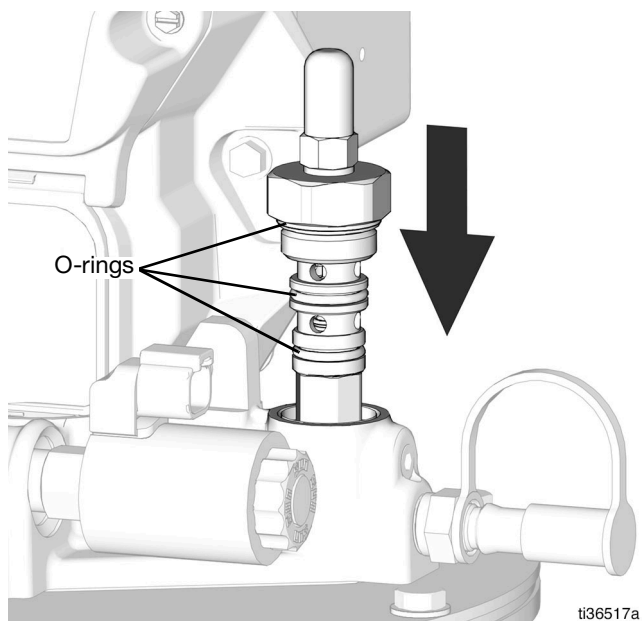

FIG. 6
5. Grease the outside of the three (3) o-rings on the Compact Dyna-Star Auto-Fill Shut Off cartridge (FIG. 6).
6. Install the Compact Dyna-Star Auto-Fill Shut Off cartridge (FIG. 6).